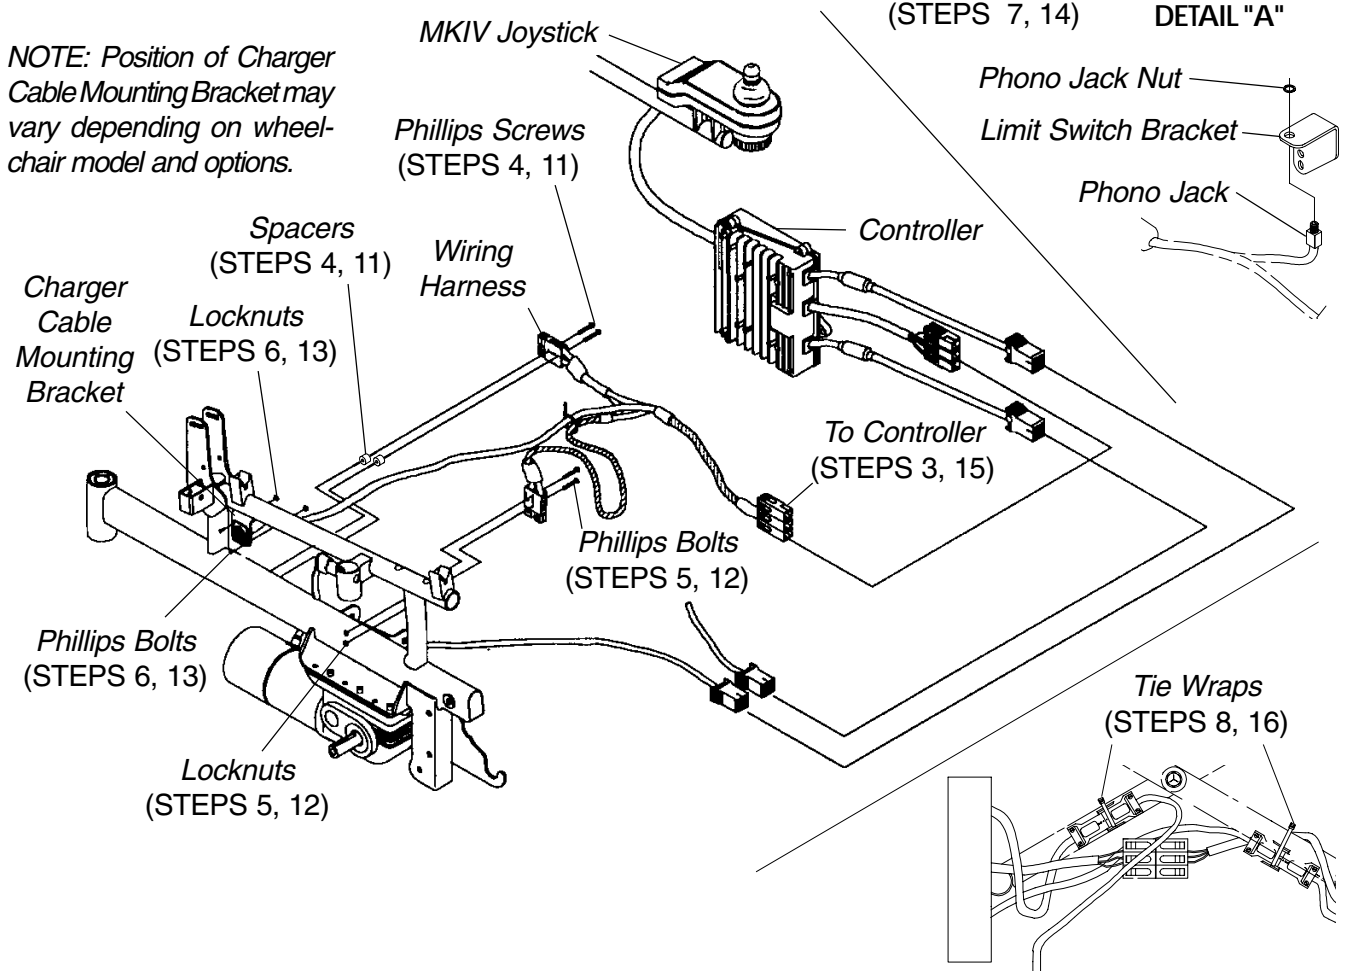

FIGURE 10 - REPLACING WIRING HARNESS
REPLACING WIRING HARNESS (FIGURE 10)
4. Remove the two (2) phillips screws and spacers that secure the rear battery connector to the wheelchair frame.
5. Remove the two (2) phillips bolts and locknuts that secure the front battery connector to wheelchair frame.
6. Remove the two (2) phillips bolts and locknuts that secure the wiring harness to the charger cable mounting bracket.
11. Position the rear battery connector of the new wiring harness on the wheelchair frame as shown in FIGURE 10 and secure with the two (2) phillips screws and spacers.
12. Position the front battery connector on the wheelchair frame as shown in FIGURE 10 and secure with the two (2) phillips bolts and locknuts.
13. Secure the wiring harness to existing charger cable mounting bracket on the seat frame with the two (2) phillips bolts and locknuts.